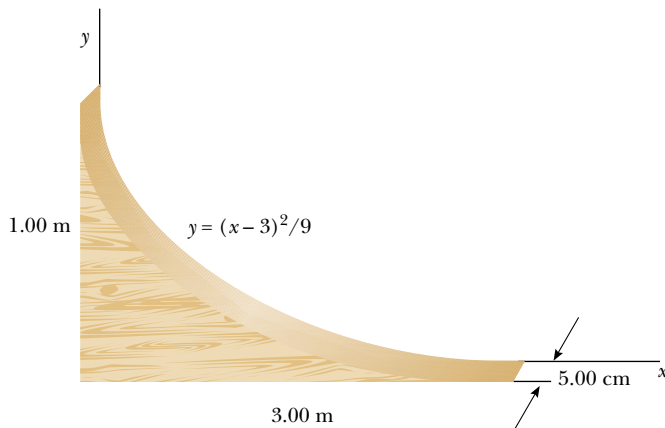

Figure P12.8
8. Pat builds a track for his model car out of wood, as illustrated in Figure P12.8. The track is 5.00 cm wide, 1.00 m high, and 3.00 m long, and it is solid. The runway is cut so that it forms a parabola described by the equation $y = (x - 3)^2/9$. Locate the horizontal position of the center of gravity of this track.